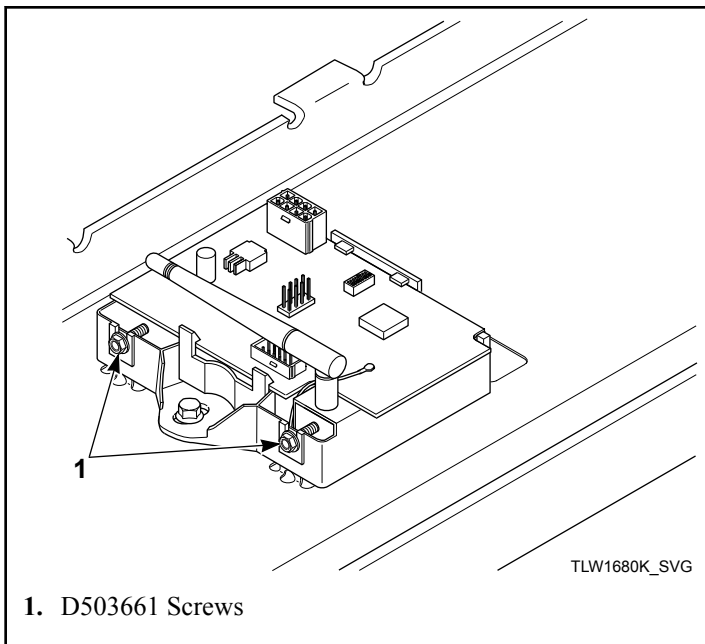

Figure 3
6. Position 204890 Wireless Network Control so that the mounting tabs on the Network Board go in front of the tabs on the control panel and the assembly mounts to the right of the mounting tabs, as shown in Figure 3. (The control should be to the right of the mounting tabs.) Then attach using the (2) D503661 Screws. Refer to Figure 3.